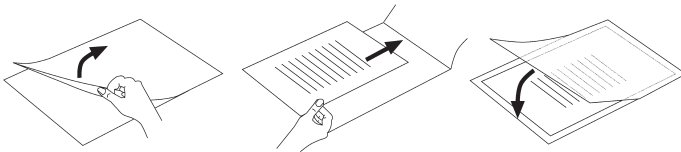

Fig. 2
- ▶ Ensure that you use only one pouch for laminating. First open it up, as shown in Fig. 2.
- ▶ Make certain that you use only one pouch for laminating. First open it up, as shown in Fig. 2 (see p. 8).